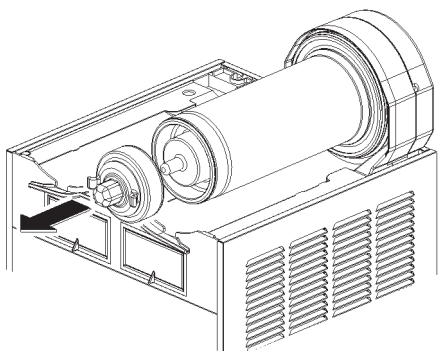

figure 9
- 3** Slide the outer spiral out (see 3) and then Outside magnetic rotor assembly (see figure 9).